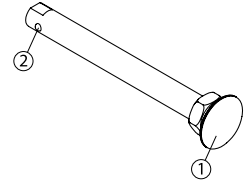
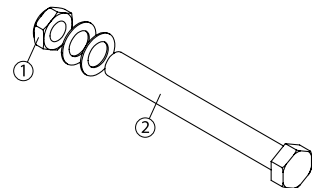

Fig. 6
Fig. 7
- To remove the rear wheels, push the button in the center of the wheel's hub (Fig. 6) and pull the wheels off (1).
- Always make sure that the quick release detent balls (2) extend beyond the axle bushing for a secure lock.
- To remove the rear wheels: unscrew the bolt (1) (Fig. 7) located inside the wheelchair axle bushing and pull out the wheel.
- To reinstall the rear wheels on the wheelchair: insert the threaded axles (2) in the axle bushing.
- Tighten the bolt (1) and make sure that the wheel is still turning without any restrictions.